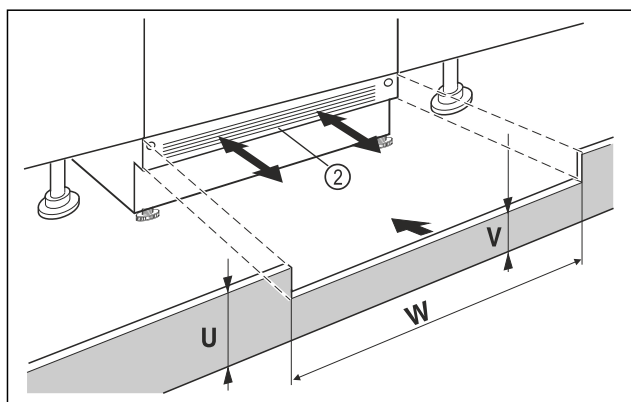

Fig. 15 Example illustration
- Put on the appliance base cover Fig. 15 (2) but do not fix it yet.
- If the base cover Fig. 15 (2) is visible, pull it so far forward that the front edge of the ventilation grille and the unit base cover form one level.
- If the base cover is concealed Fig. 15 (2), push it all the way back.
- Ensure that the ventilation slots are completely free: If necessary, cut the height of the unit base cover Fig. 15 (U) to size!
- Adjust the bar height Fig. 15 (V) under the appliance base cover Fig. 15 (2) along the recess width Fig. 15 (W).